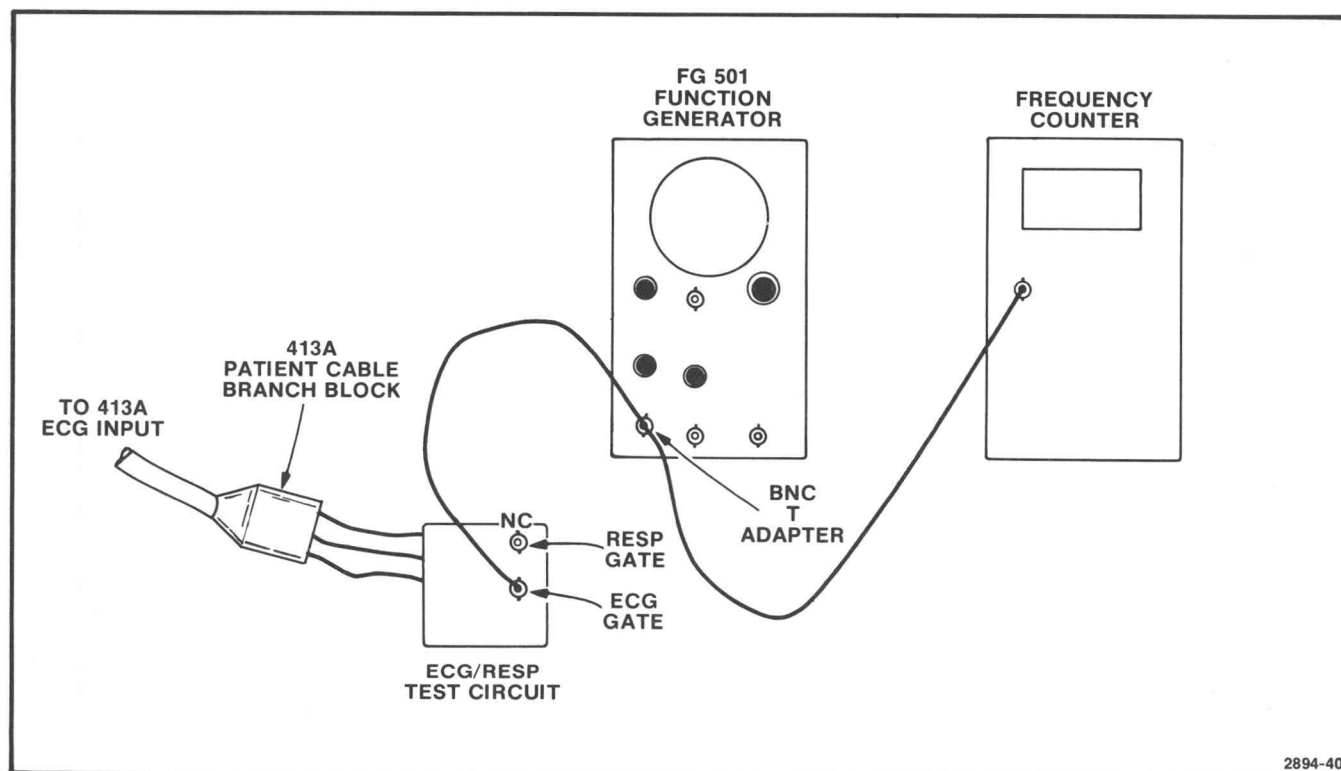

Fig. 4-11. Horizontal Position and Width adjustment setup.
a. Connect 413A patient cable, ECG/Resp test fixture, frequency counter, and function generator as shown in Figure 4-11.